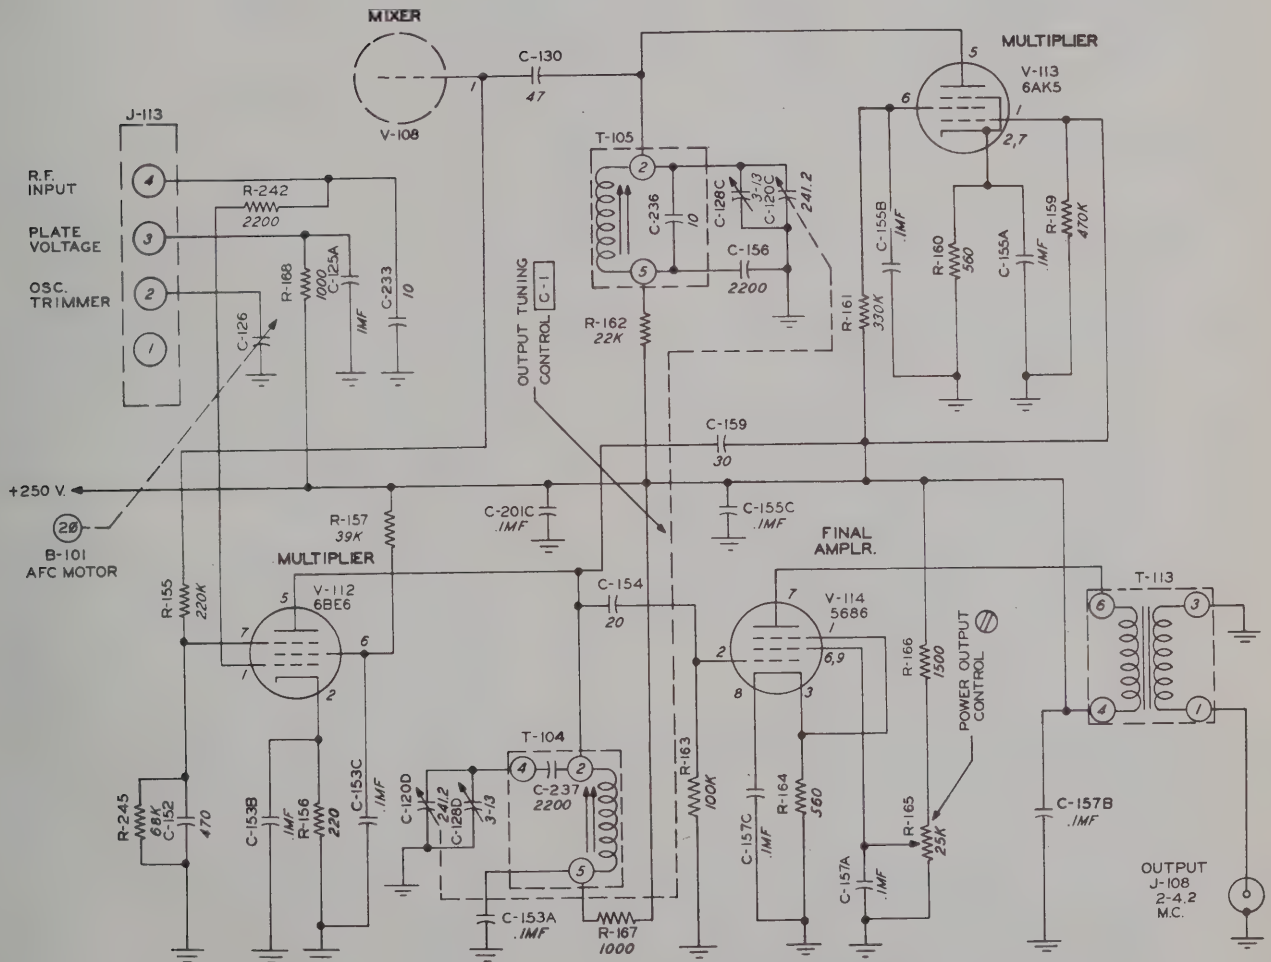

Figure 94. R-F Oscillator O-91/FRT-5, Multipliers and Final Amplifier, Schematic Diagram.
- (b) *Multiplier V-112 (fig. 94):* The multiplier stage, V-112, employs a type 6BE6 miniature pentagrid tube operating as a Class C stage with cathode bias. The input voltage is fed to number 1 grid of V-112 through R-242, which is used to reduce the input voltage slightly so that the mul-
- (c) *Final amplifier (fig. 94).* The final amplifier is a class A stage operating as a straight amplifier. Input voltage is fed from the plate circuit of V-112 through capacitor C-154 to the control grid of V-114. A voltage divider arrangement using a po-